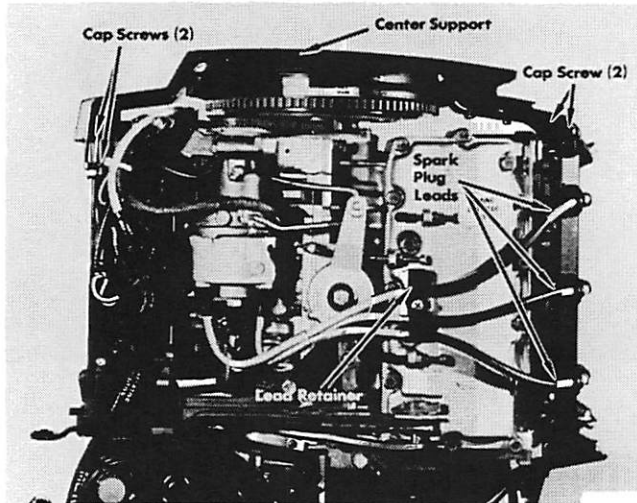

Figure 1. Spark Plug Lead Location
2. Remove 4 cap screws from front and rear center support and remove center support assembly. (Figure 1)
2. Remove spark plug leads from spark plugs. (Figure 1)
3. Remove lead retainer from exhaust cover. (Figure 1)